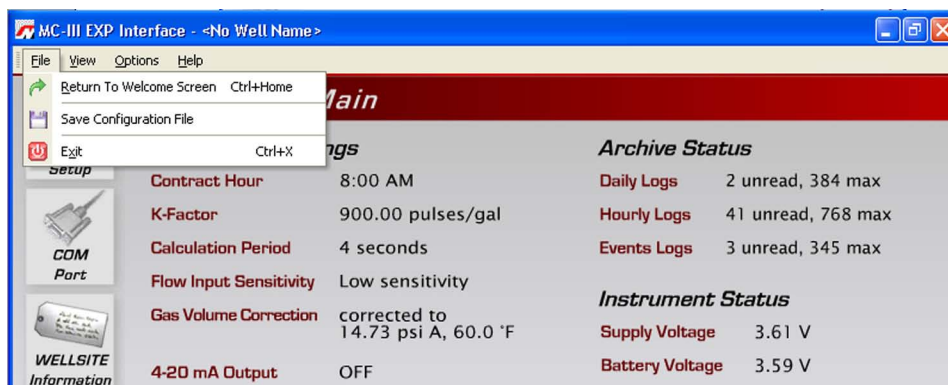
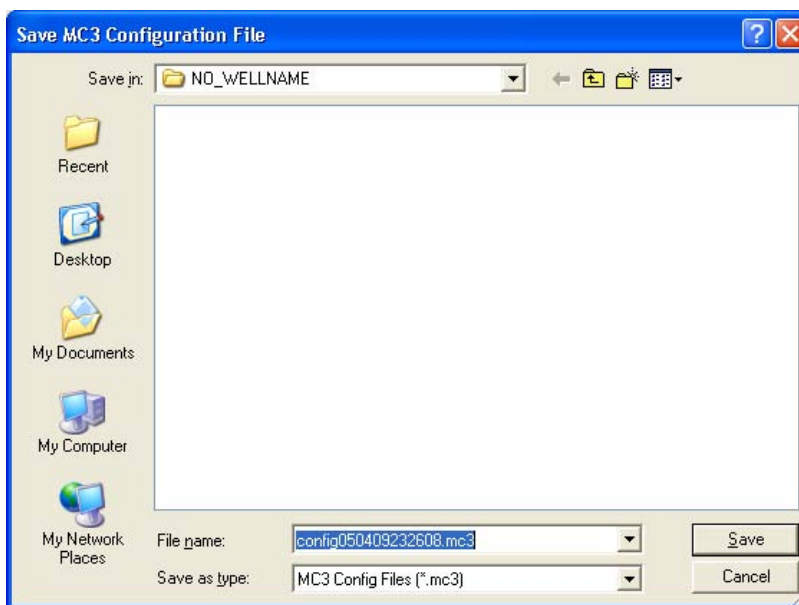

Figure 4.35—File dropdown menu allows user to save a configuration file
Figure 4.36—Default directory for configuration files
1. Select File>Save Configuration File (Figure 4.35). A “Save MC3 Configuration File” screen (Figure 4.36) will appear, prompting the user to save the file to the computer hard drive. The default directory is C:\Nu-Flo log data\MC-III\<WELL NAME>, however the user can specify a new location, if desired.
The “wellname” folder will bear the well name that appears on the Wellsite Information screen. If no well name is entered on this screen, the folder will be named “NO_WELLNAME” (*Figure 4.36, page 75*).